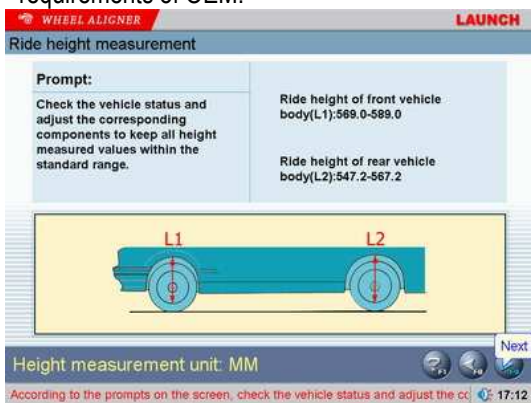

Fig.4.8
- When some special vehicle models (such as BMW 3 series) are selected, the screen will pop up an interface of [Height Measurement] as shown in Fig.4.8. This interface provides an operating platform for ride height measurement system, in order to check if the ride height meets the design requirements of OEM.